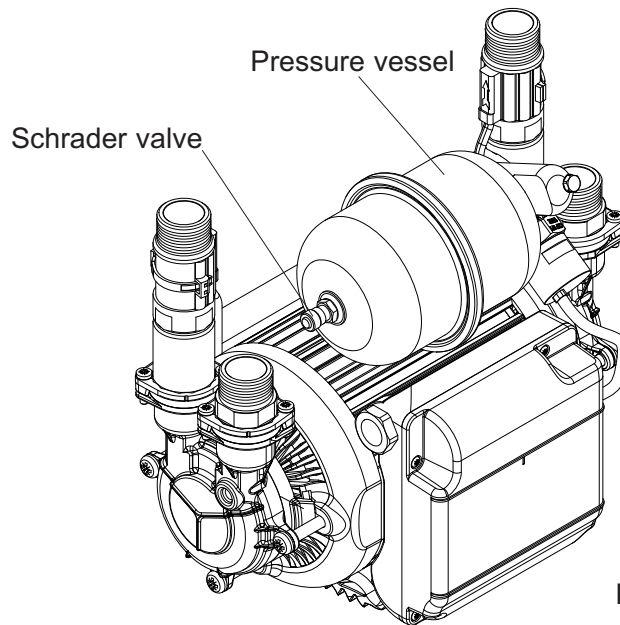

Fig. 16
- d) Check air pre-charge at Schrader valve (Fig. 16) using a tyre pressure gauge.